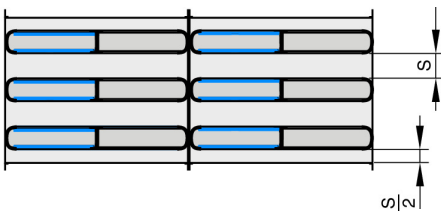
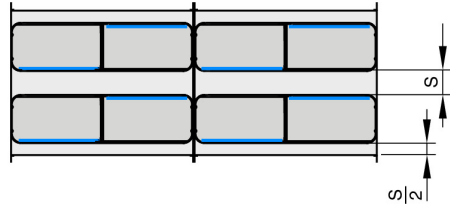

Fig. 21: Opposite resonating panels
Fig. 22: Offset resonating panels
- Dimension (H) equals the clear height of the duct.
- The length of the duct must be at least equal to the sum of the splitter lengths (L).
- Only arrange splitters of the same length (L) side by side or on top of each other.
- The arrangement of the resonating panels (Fig. 21, Fig. 22) has to be the same over the entire length.
- The air must flow through the sound attenuator parallel to the splitter length (L); splitter height (H) and splitter length (L) must not be interchanged.